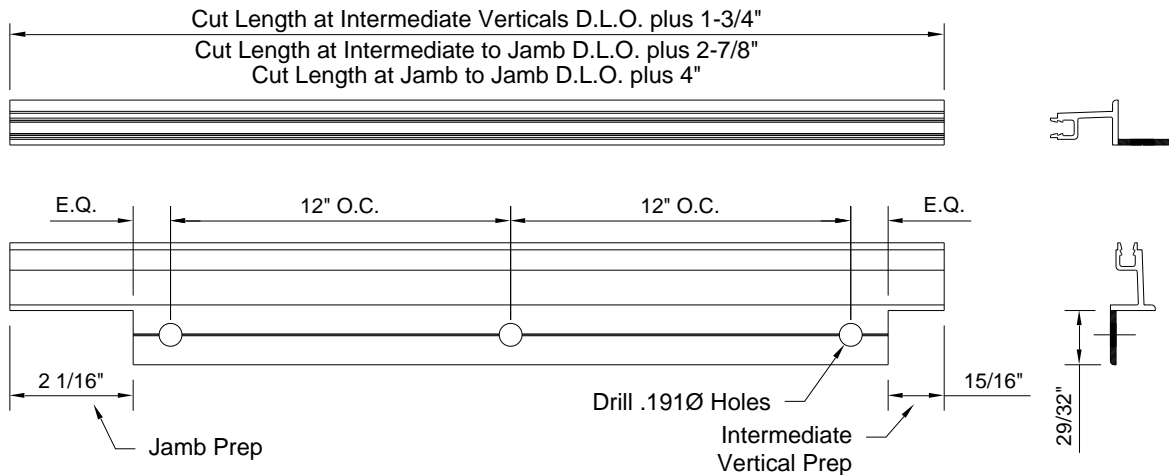
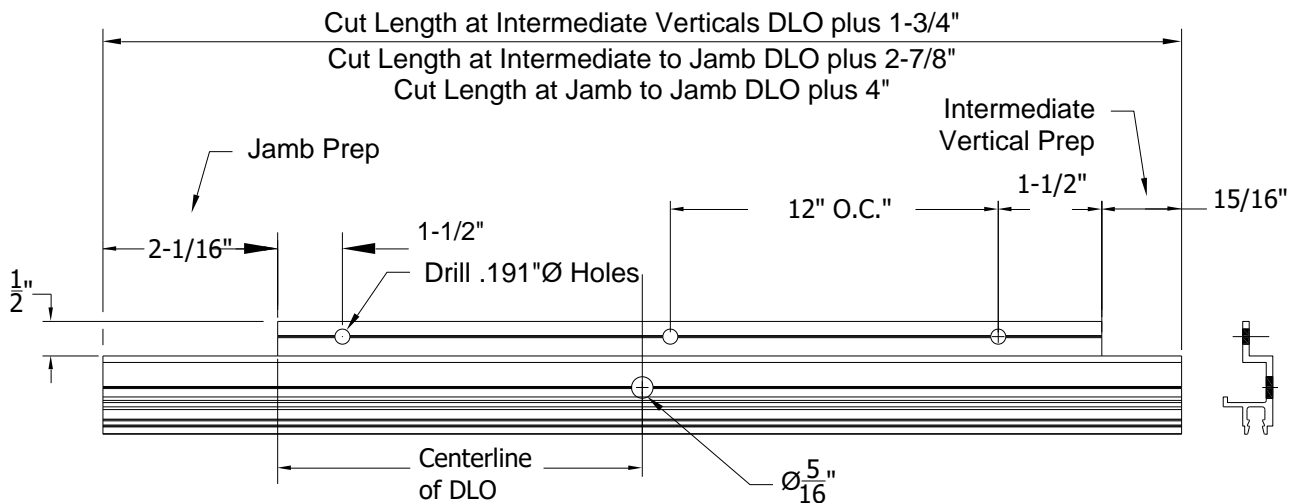

Figure 21: RL-257 Fabrication
Figure 22: WW-258 Fabrication
- 12.1 Bellows gasket retainers, RL-257 & WW-258 will be fabricated to run from mullion center to mullion center except at jambs. These will be cut to extend full width of jamb mullion. A 1/4" joint will be located between retainers at each intermediate mullion. Retainers will be cut D.L.O plus (+) 2" at jambs and D.L.O. plus 7/8" at each intermediate vertical. RL-257 will be notched to clear mullion as shown in RL-257 Fabrication *Figure 21*. WW-258 will be notched to clear mullions as shown in *Figure 22* below. Notch 2-1/8" at Jambs and 15/16" at Intermediate Vertical Mullions.
- 12.2 RL-257 upper gasket retainer will be square cut typical, miter as required at corners. Drill #11 (.191) holes at 12" on center. See *Figure 21*.
- 12.3 WW-258 lower gasket retainer will be square cut typical, miter as required at corners. Drill #11 (.191) holes at 12" on center for attachment. 5/16" dia. weep holes must also be drilled in upper channel at centerline of day light opening. See *Figure 22*.